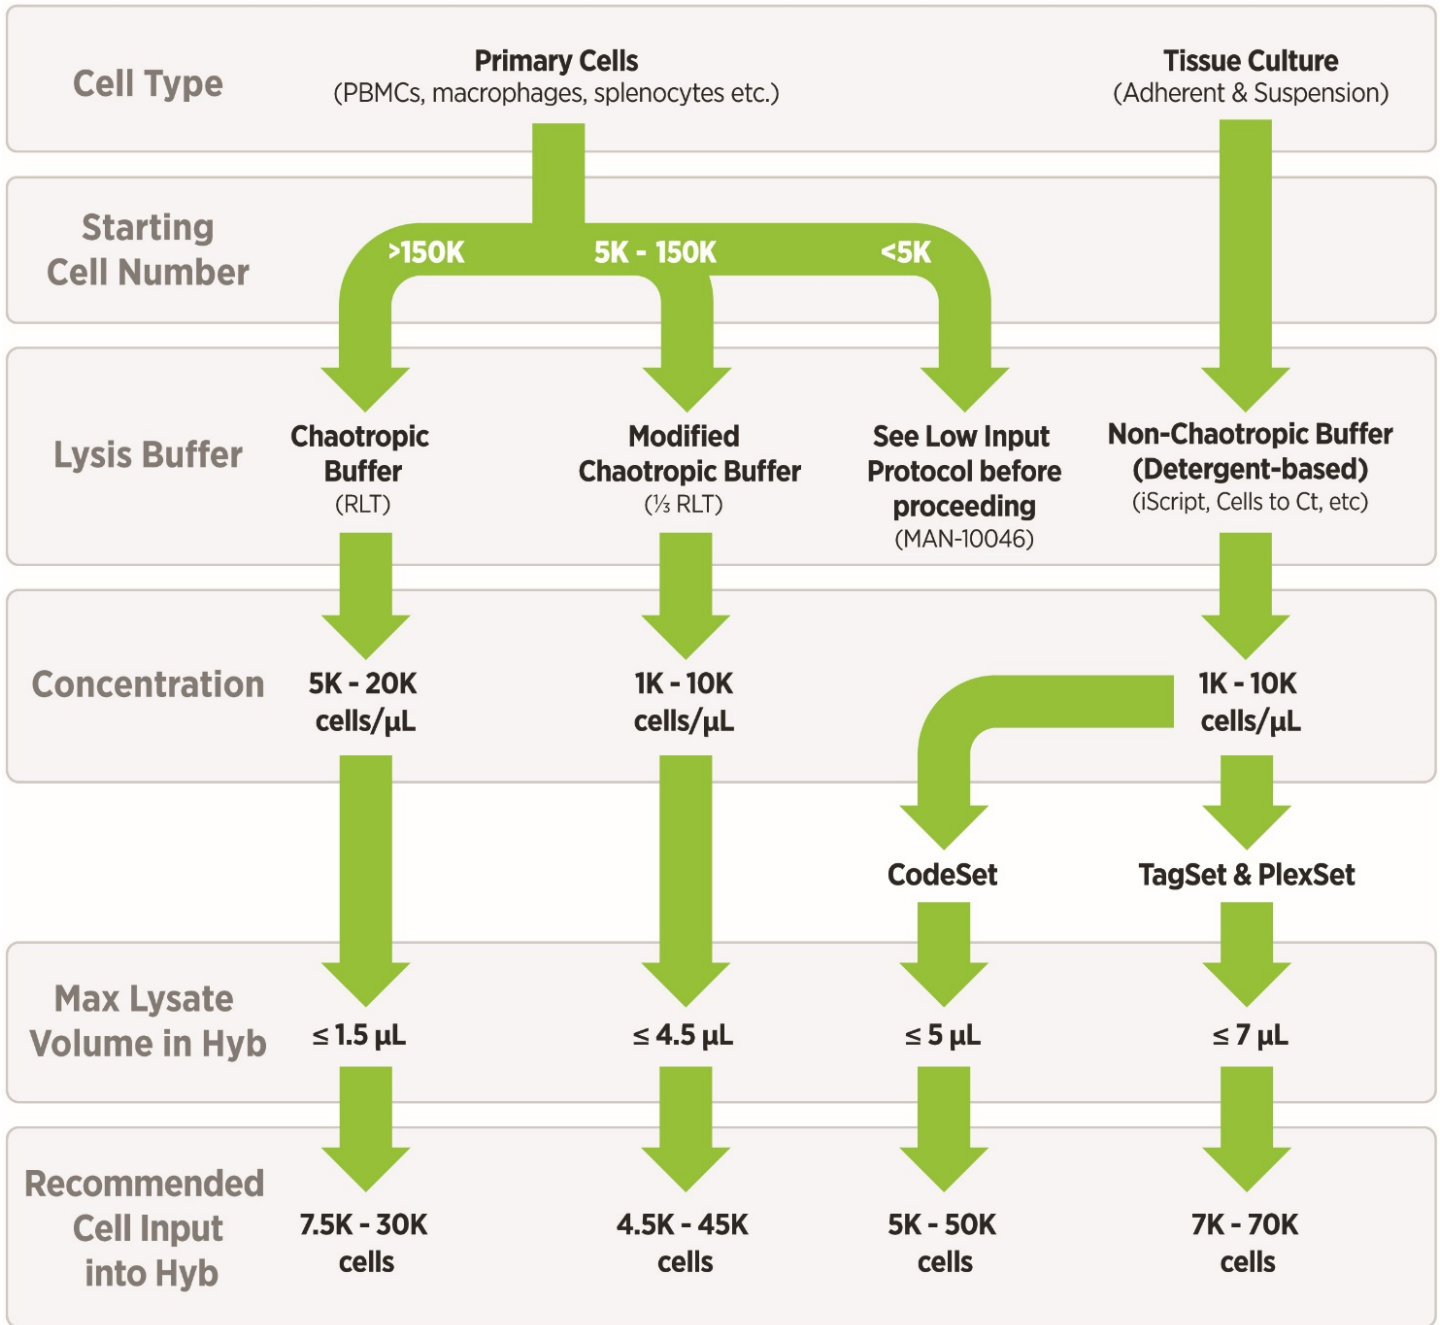

Figure 1. Lysate workflow
For most cell types, NanoString recommends a minimum of 5,000 to 20,000 cells (or cell equivalents) per hybridization reaction for measuring gene expression. Some cell types, such as freshly isolated immune cells, may require 20,000 to 30,000 cells per hybridization reaction for adequate input. The required number of cells for any given application will ultimately be dependent on the abundance of the mRNA targets of interest in the sample to be assayed and should be determined empirically by the end user for their biological system. Furthermore, the maximum sample input volume when using cell lysates depends on the type of lysis buffer used. Cell type and number play an important role when choosing which buffer to use. Use the flow chart below (Figure 1) to determine the appropriate lysis buffer and lysis protocol for your sample preparation.
The list of suggested lysis buffers found in Figure 1 and their associated catalog numbers are listed here in Table 4.
NanoString recommends lysing cells using a chemical- or detergent-based buffer (such as iScript or Cells-to-Ct) for applications involving tissue culture cells (adherent and suspension). These buffers are non-chaotropic, as they do not contain chaotropic salts, making them fully compatible with nCounter hybridization reagents. These buffers should be used such that final cell lysate concentrations are between **1,000–10,000 cells/μL**. Lysate concentrations greater than **10,000 cells/μL** may result in incomplete cell lysis. Up to **5 μL** of lysate may be added to CodeSet hybridization reactions (up to **7 μL** of lysate may be added for TagSet or PlexSet reactions) (Figure 1).
8. Use up to the 'Max Hyb Volume' of lysate recommended for your assay in each NanoString hybridization reaction (see Figure 1).
Prior to the start of the lysis experiment, dilute 100% RLT Buffer 1/3 in nuclease-free water. To allow efficient lysis, lysate concentration should not exceed **10,000 cells/µL**. It is important to start with an optimal number of cells so that the final concentration of cells will allow appropriate amount of input to be loaded on to each reaction at maximum volume of **4.5 µL** of cell lysates (see Figure 1).